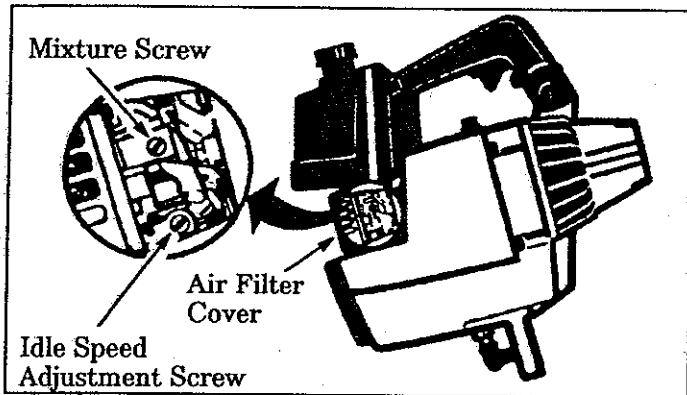

Figure 26
- a. Turn the Mixture Screw (Figure 26) clockwise until it stops. *Do not turn the screw until it is tight as damage to the needle seat can occur.*
- b. **If the engine does not accelerate smoothly**, turn the Mixture Screw (Figure 26) counterclockwise ← a small amount (no more than the width of the slot in the adjusting screw).
3. Turn Mixture Screw (Figure 26) very slowly clockwise \rightarrow until engine speed is reduced.